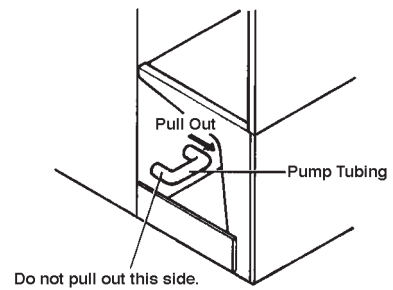

Fig. 4
- 3) Drain the water tank by removing the base cover and one end of the pump tubing. See Fig. 4.
- 5) Remove one end of the pump tubing (see Fig. 4). Drain the water tank. Replace the pump tubing in its correct position.